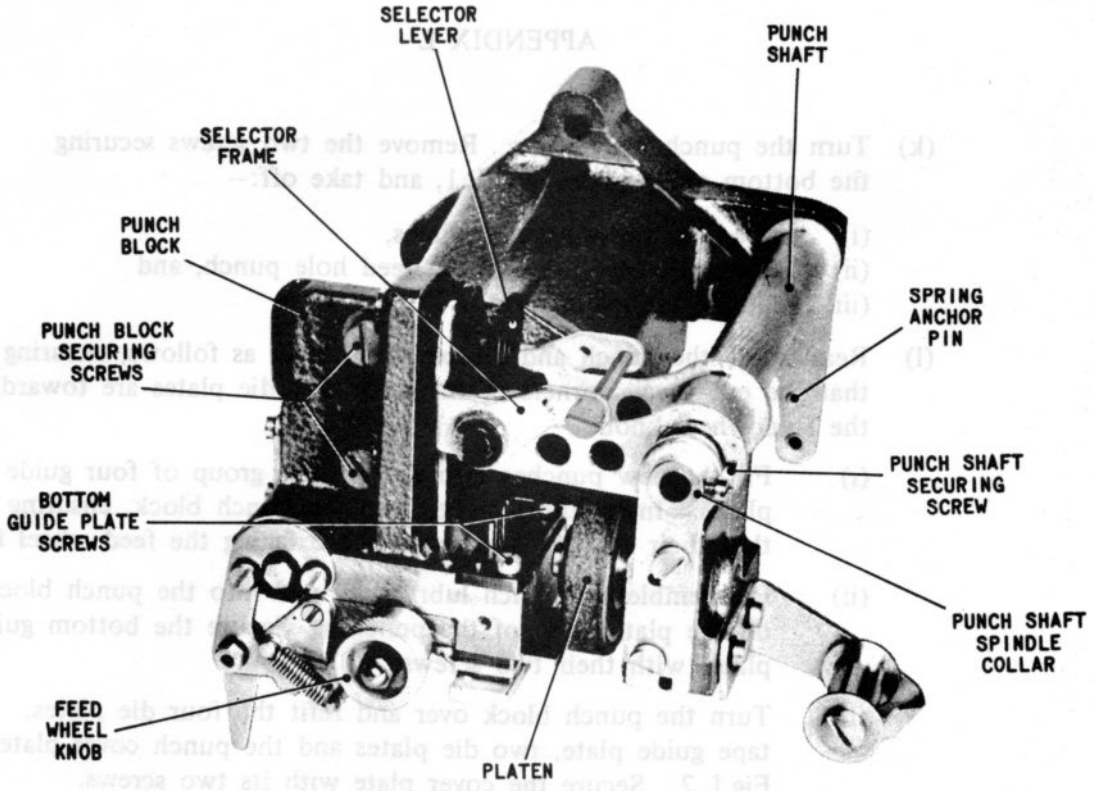

FIG.L.1 SELECTOR LEVERS ASSEMBLY
- (a) Disconnect the five springs securing the selector levers, Fig.L.1. to the selector cable block.
- (a) Disconnect the five springs securing the selector levers, Fig L 1, to the selector cable block.
- (h) Remove the two screws securing the punch block, Fig.L 1, to the unit casting. Withdraw the punch block together with the selector frame assembly.
- (k) Turn the punch block over. Remove the two screws securing the bottom guide plates, Fig.L.1, and take off:–
- (r) Slide the punch shaft, Fig.L.1, into position. Insert the punch shaft spindle into the shaft and secure the shaft to the spindle with its screw.